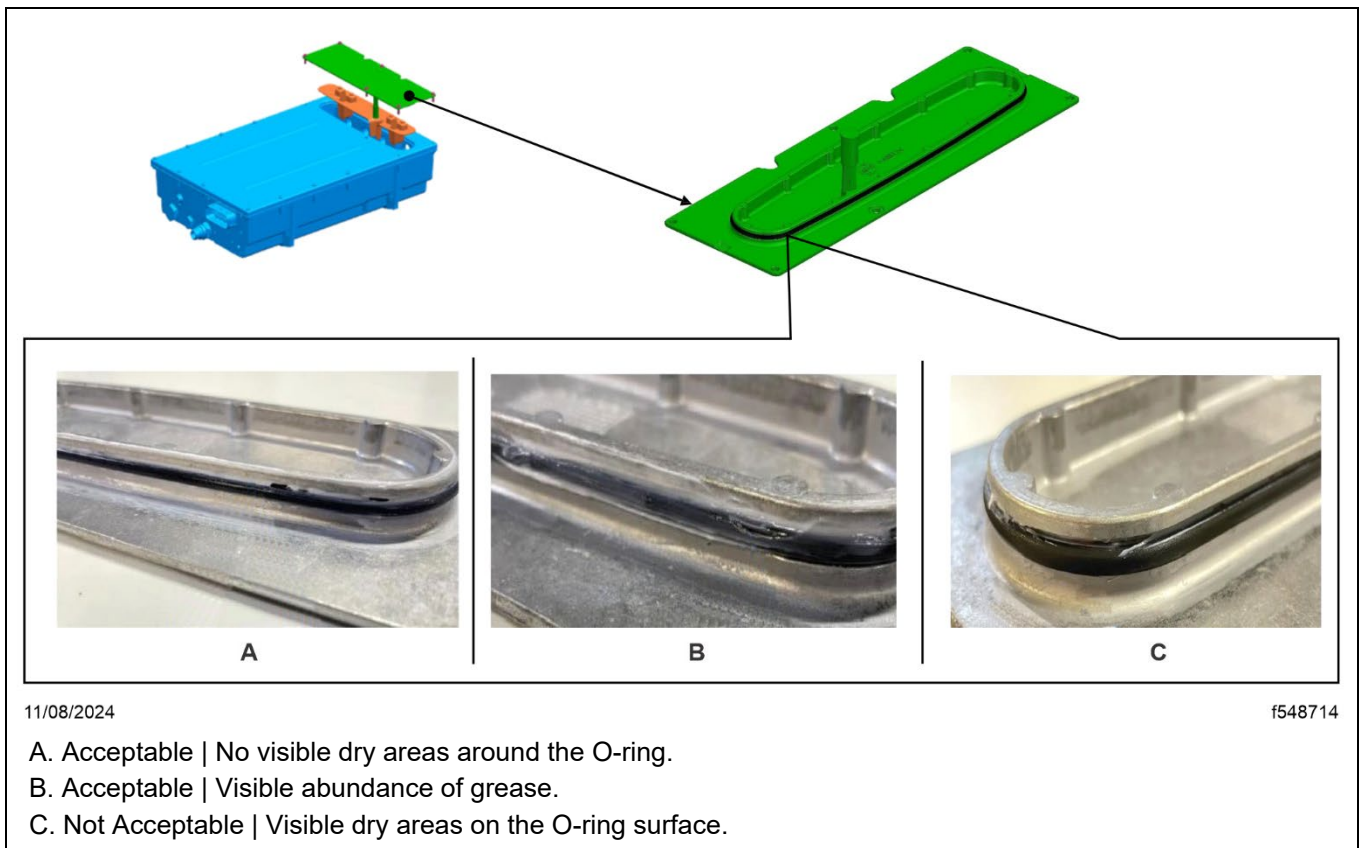

Fig. 10, Inspecting the O-Ring
9. Install the delayed access and the inverter access cover for the undercab inverter. Verify the O-ring is not damaged and is properly lubricated. Tighten the fasteners 44 lbf·in (497 N·cm). See Fig. 10 and Fig. 11.